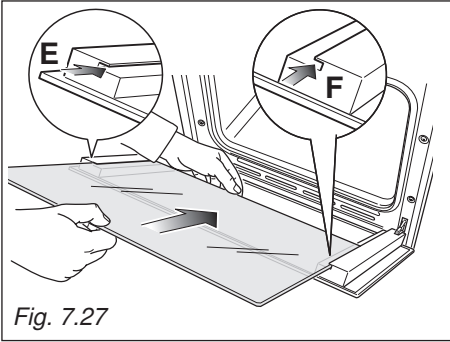
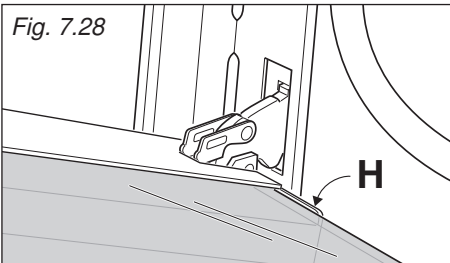

Fig. 7.27
Fig. 7.28
- Insert the pane in the left "E" and right "F" slide guides (fig. 7.27), and gently slide it to the retainers "H" (fig. 7.28).